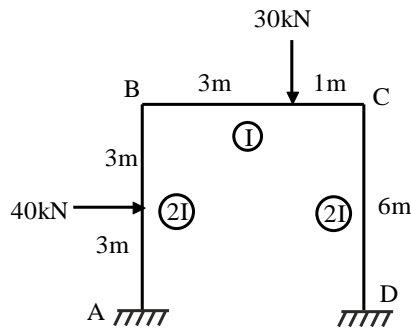

Fig. 7
9. Analyse the portal frame by slope deflection method. Draw BMD ref. Fig. 7. 13